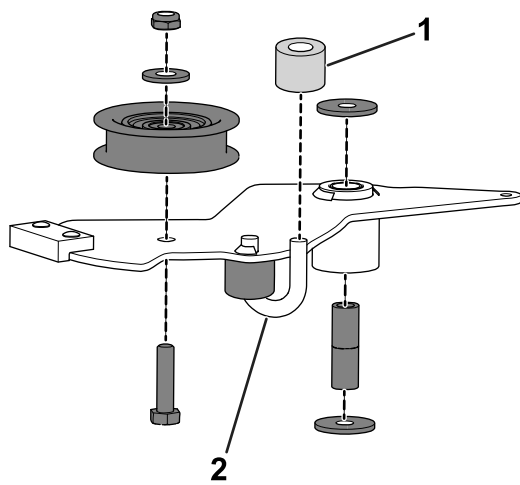

Figure 10
1. Install the rubber spacer and the hardware from the old brake arm onto the new brake arm (Figure 10).
2. Guide the rubber spacer along the hook until it is flush with the plate (Figure 10).